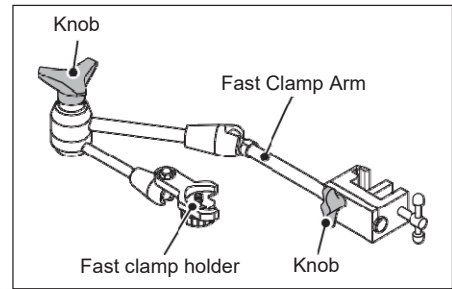

Figure 1-25
1. **Confirm that the knobs (two places) of the Fast Clamp Arm are secured. (Figure 1-25)**